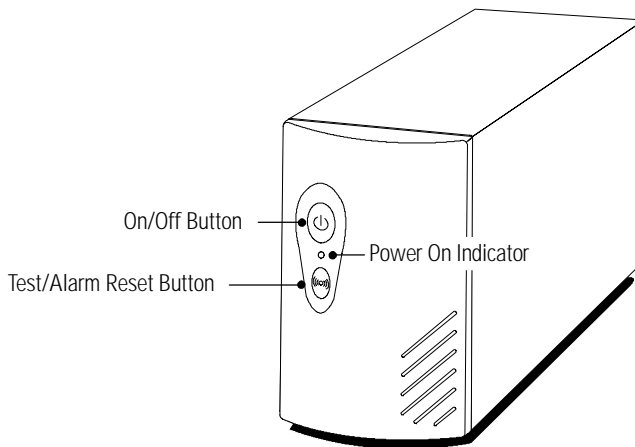

Figure 2. Powerware 3115 Front Panel
5. Start the UPS by pressing the  button as shown in Figure 2. The Power On indicator illuminates indicating that power is available from the rear receptacles.
To turn on the UPS, press the  button on the front panel (shown in Figure 2 on page 5). After the UPS is turned on, it conducts a self-test and enters Normal mode. The Power On indicator illuminates indicating that power is available from the rear receptacles.